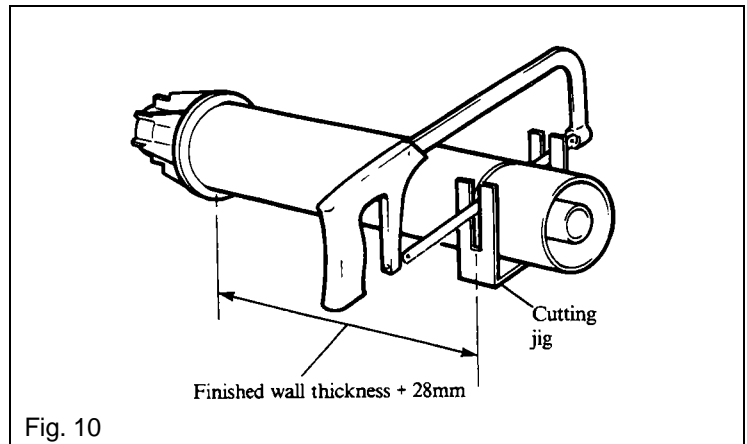

Fig. 10
Refer to Fig. 10.
2. With the cutting jig, supplied with the flue/terminal assembly, in position over the flue/terminal assembly as shown in Fig. 10, cut the tubes to the correct length. Using the cutting jig should ensure that the tubes are cut square.